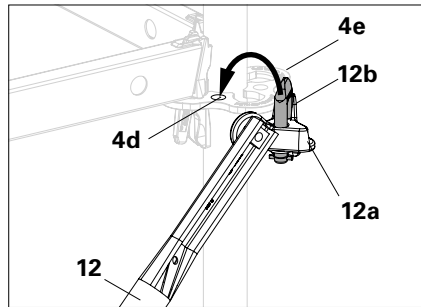

Fig. A2.20a
1. Push the head of the diagonal bracing (**12a**) with bolts (**12b**) pulled upwards on the top rosette (**4e**). (Fig. A2.20a)